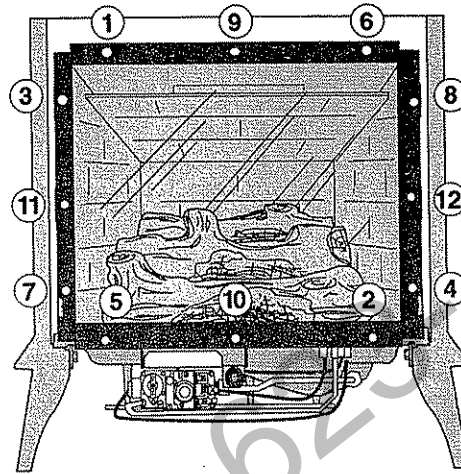

Figure 39. Remove the glass frame screws in an alternating pattern.
- Use a Phillips screwdriver to first alternately loosen and then remove the twelve screws that hold the glass frame to the stove. **Follow the pattern shown in Fig. 39. Uneven pressure can break the glass.**
Replace glass only with V.C.I. Part # 160-1691. See Fig 39, and previous instructions for removal of the damaged glass panel.